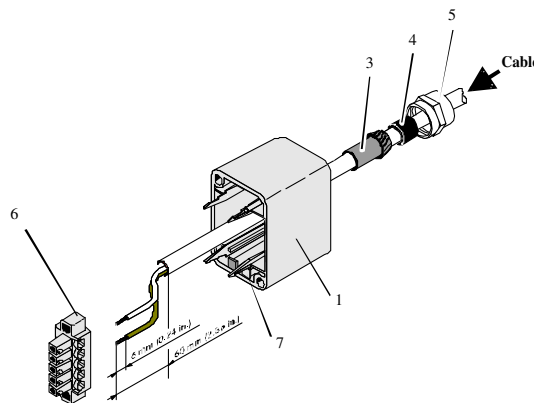

Figure 3: Mounting for the cable
- Remove all inner parts from the cable pipe at the SAB Cab (1) (nut (5), cable fastener (3), pipe(4)) (see Figure 3)
- Put all the removed parts (nut (5), cable fastener (3), pipe (4),) and the cable pipe of the SAB Cab as well (1 to 4) to the cable.